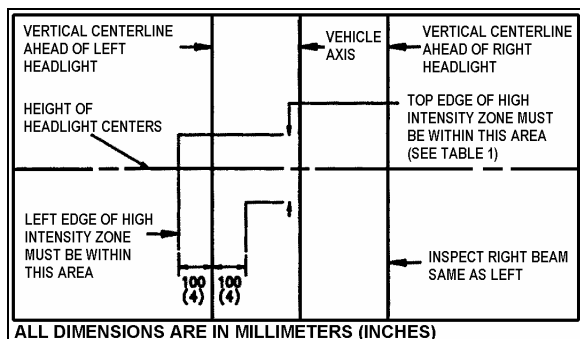

FIGURE 35: AIM INSPECTION LIMITS FOR LOWER-BEAM HEADLIGHTS
8. The inspection limits in the vertical direction for low-beam headlights or the low beam of a dual-beam headlight, shall be as described in Table 1. In the horizontal direction, the left edge of the high-intensity zone shall be located from 10 cm (4 in) left to 10 cm (4 in) right of the vertical centerline of the beam. The viewing screen shall be located 7.6 m (25 ft) in front of the vehicle (Fig. 35).